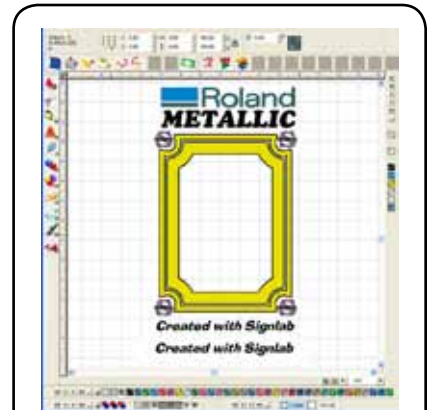

Fig. 24 - The “Clipart start” file contains an assortment of vector shapes and bitmap images.
1. In SignLab, use **File** menu >> **Open** to load the “Clipart start.CDL” file from the clipart directory (Fig. 24).